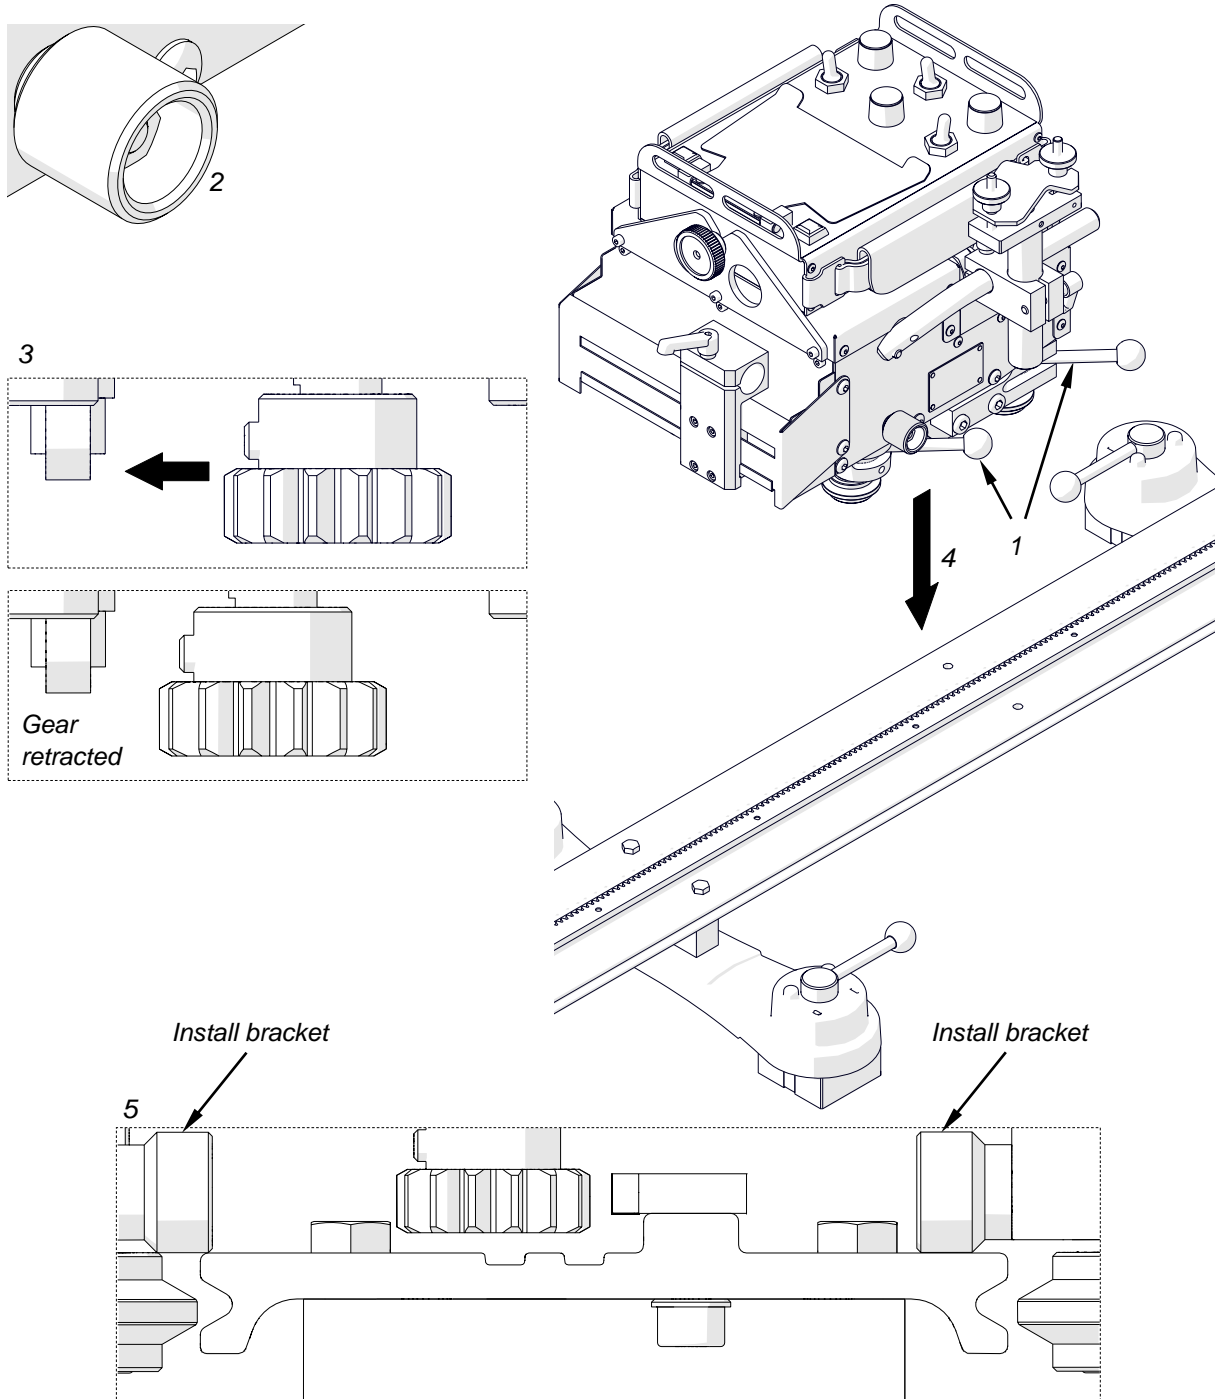

Fig. 6. Putting the carriage on a straight track
Set the power switch, arc ignition switch, oscillation switch, and travel direction switch to 'O'. Next, set the levers to OFF (1, Fig. 6), and then loosen the knob (2) fully to retract the gear (3). Then, put the carriage so that the install brackets are on the rail (4, 5).